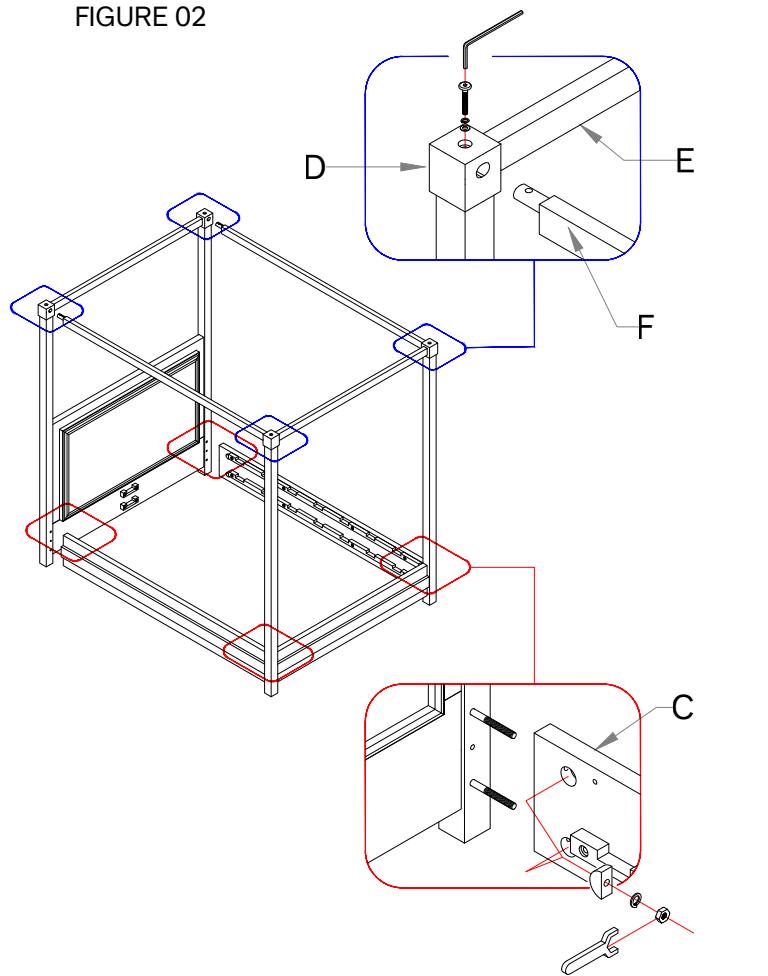

FIGURE 03
MATTRESS HEIGHT OPTION: Before installing the slat support (F), determine the desired height of the side rail cleats and brackets on both headboard and footboard. The cleats have been pre-installed to the lower position (box spring level). Please see **FIGURE 03**.
For use with no box spring, remove the Allen head bolt and re-attach the cleats and brackets into the higher set of holes with insert nuts pre-installed. Please see **FIGURE 03**.